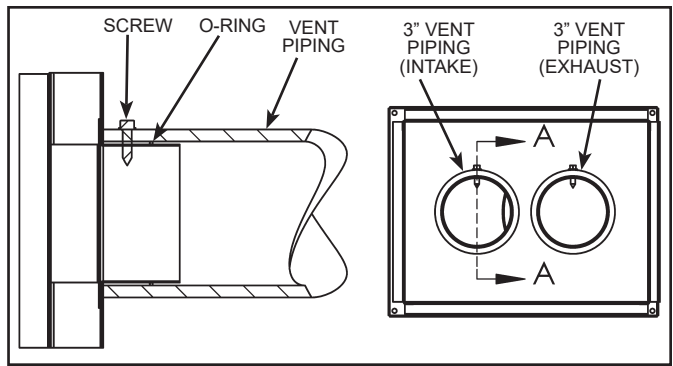

Figure 25.
2. Thoroughly inspect the vent termination for any damage (see Figure 25).
4. Drill  $7/64$ " pilot holes for a #8 screw (see Figure 25). Take care not to damage the O-ring.
5. Secure the vent piping to the air box with screws (see Figure 25).